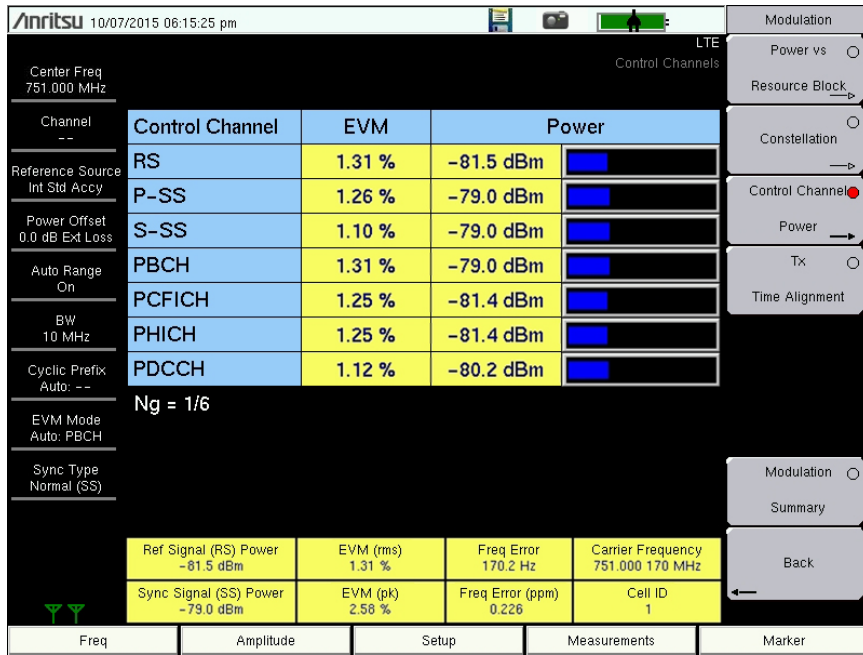

Figure 5-8. Control Channel Power
This measurement shows the power levels of key physical layer Control Channels and also includes the numerical results table described in the “Constellation” section above. EVM per control channel is also available (see Figure 5-8 on page 5-13), as well as a table view showing the power in both per-resource-element and total power formats. Refer to “Control Channel Power Menu” on page 5-37.
3. Press the Control Channel Power submenu key to activate the Control Channel Power display (Figure 5-8). Press the key again to view or change the Display Mode and Control Channel EVM settings.